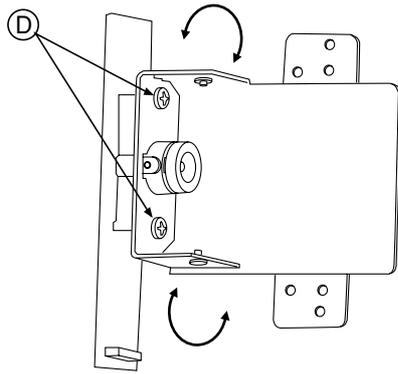
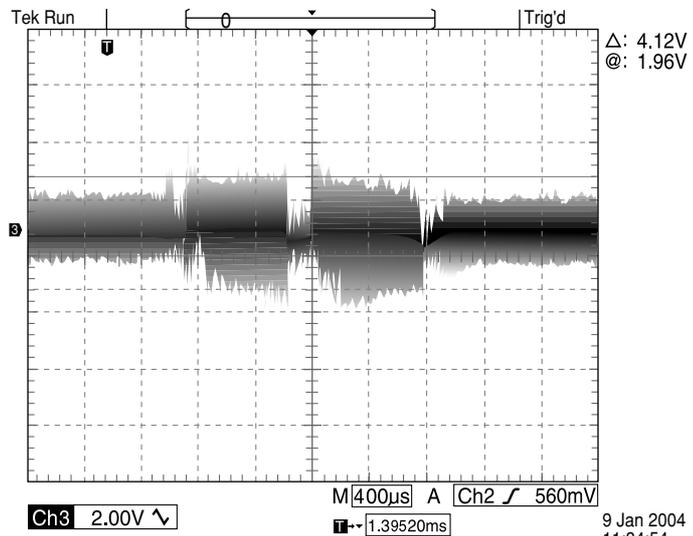

Fig. 10
Fig. 11
## 9) Torsion adjustment of CCD Unit (See Figures 10 and 11.)
- Loosen screws D shown in Figure 10, move the CCD board, and fix screws D when the upper and lower vertical lines equally go down as shown in Figure 11.